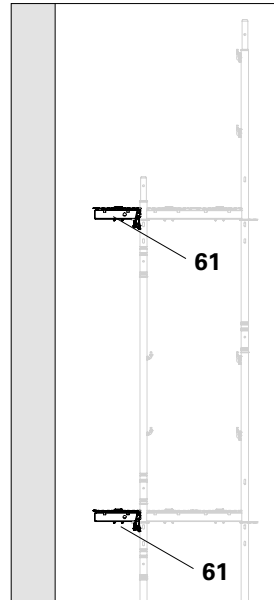
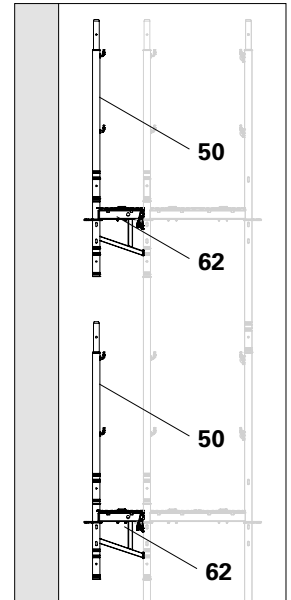

Fig. D1.03
Fig. D1.03a
2. Fit Support UC 33 (61) onto the middle frame. (Fig. D1.03)
3. Insert Steel Decks EDS (30).
4. Fit the End Guardrail EPF (53).
To assemble an inner guardrail (51a), fit Console Brackets ECM (62) with guardrail posts instead of Supports UC 33 (61). (Fig. D1.03a + D1.03b)